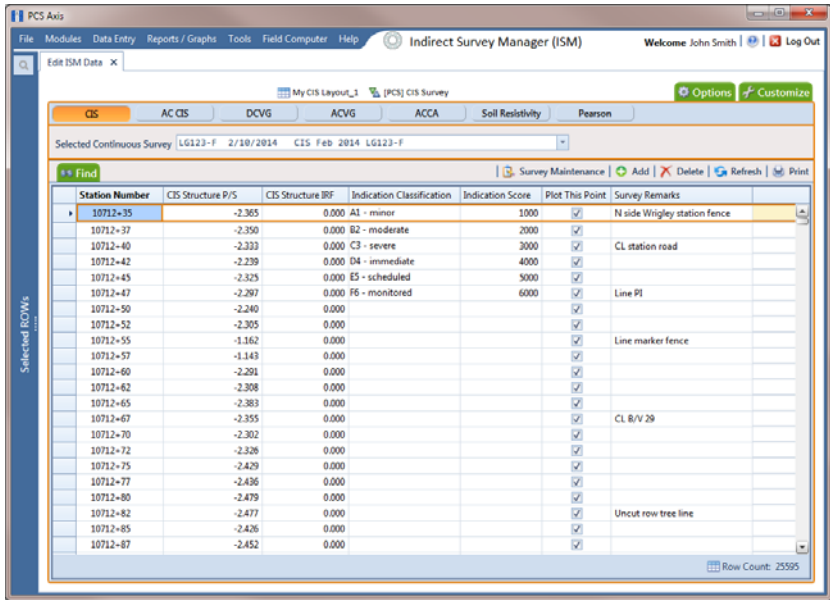

Figure 7-58. Edit ISM Data
- 4 Click a button labeled with the type of continuous survey data you want to work with, such as the **CIS** button  (Figure 7-58, page 248).